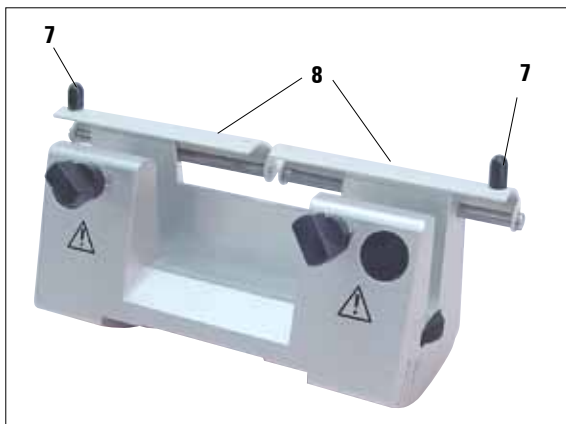

Fig. 5
The knife guard (8) of the knife holder N/NZ can be easily positioned via the two handles (7) (Fig. 5).